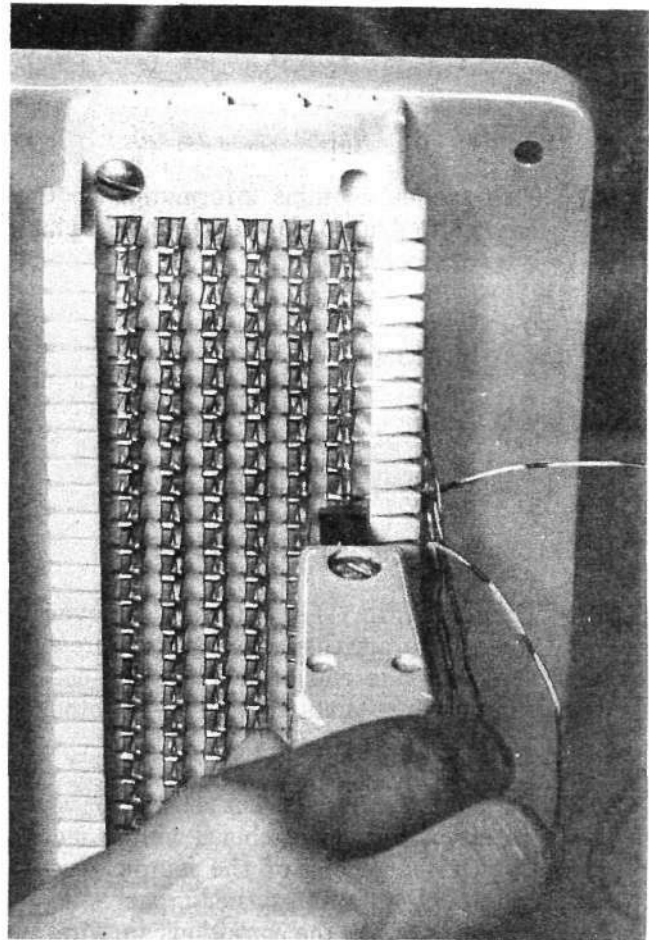

Fig. 2—Terminating or Looping Wire on 66-Type Connecting Block With B Impact Tool
3.01 To make an ended termination using the B impact tool, observe the following procedure (Fig. 2):
3.02 To make a looping termination on a 66-type connecting block, perform the following steps (Fig. 2):